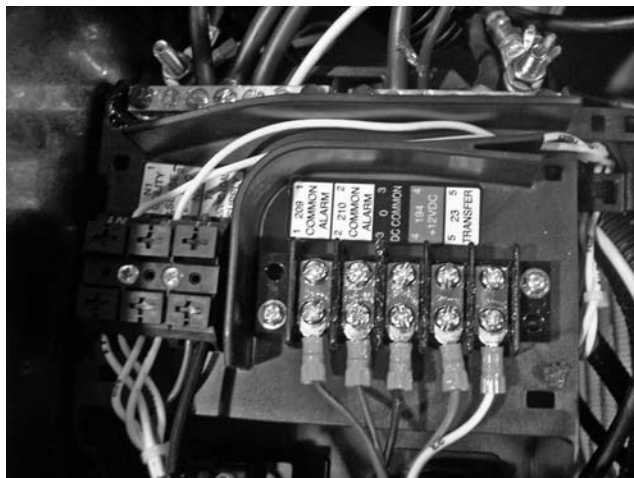

Figure 198.
14. **Remove Stator Wires:** Remove all connectors from the controller, remove all wires the common neutral and ground wires from landing lugs, and remove wires from main breakers. See Figure 198.